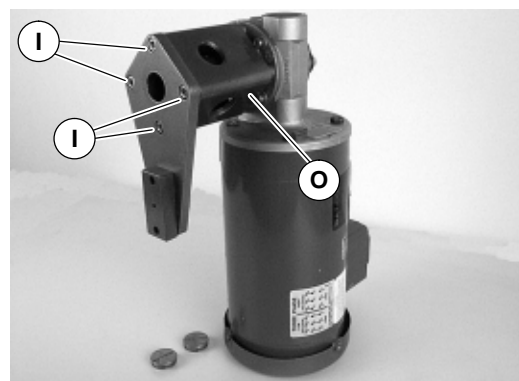

Figure 12
4. Remove four (4) screws (I of Figure 12) and remove mounting bracket & guard (O).
14. Attach mounting bracket & tube (O of Figure 12) to gearmotor. Tighten screws (I) to 12 Nm.